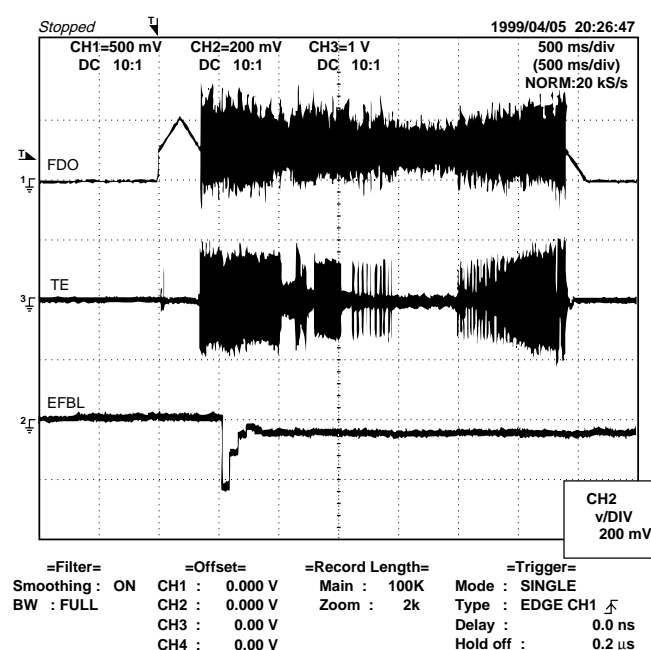

Figure 11-2
- Tracking balance adjustment (waveform drawing Fig. 11-2 EFBL)